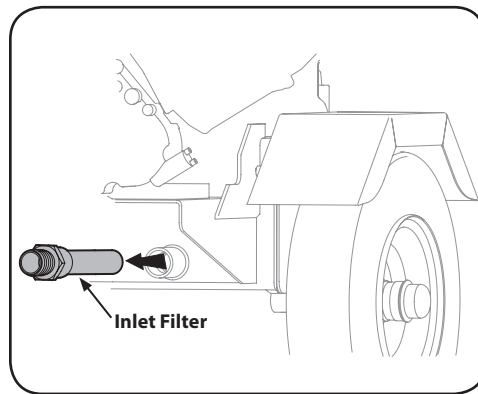

Figure 5-3
5. Carefully un-thread the inlet filter and clean it with penetrating oil. See Figure 5-3.